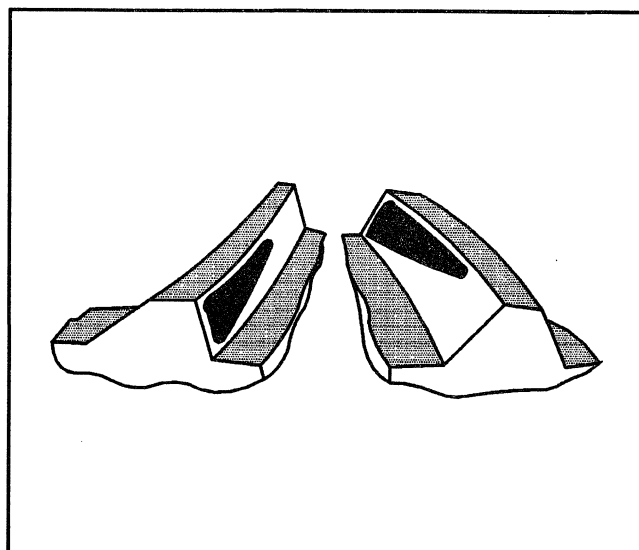

Figure 40—Pinion Gear is too Far Away
4. Observe the pattern on the ring gear teeth and compare with Figures 40 through 42.